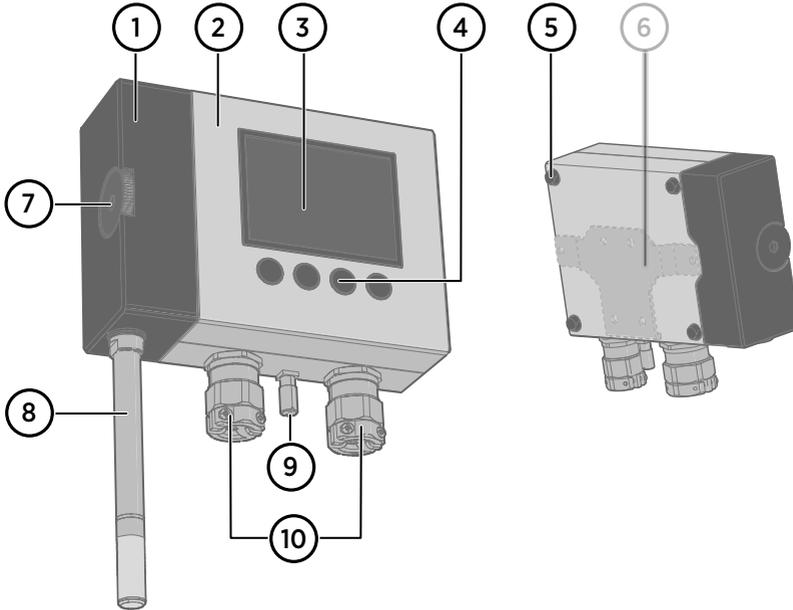
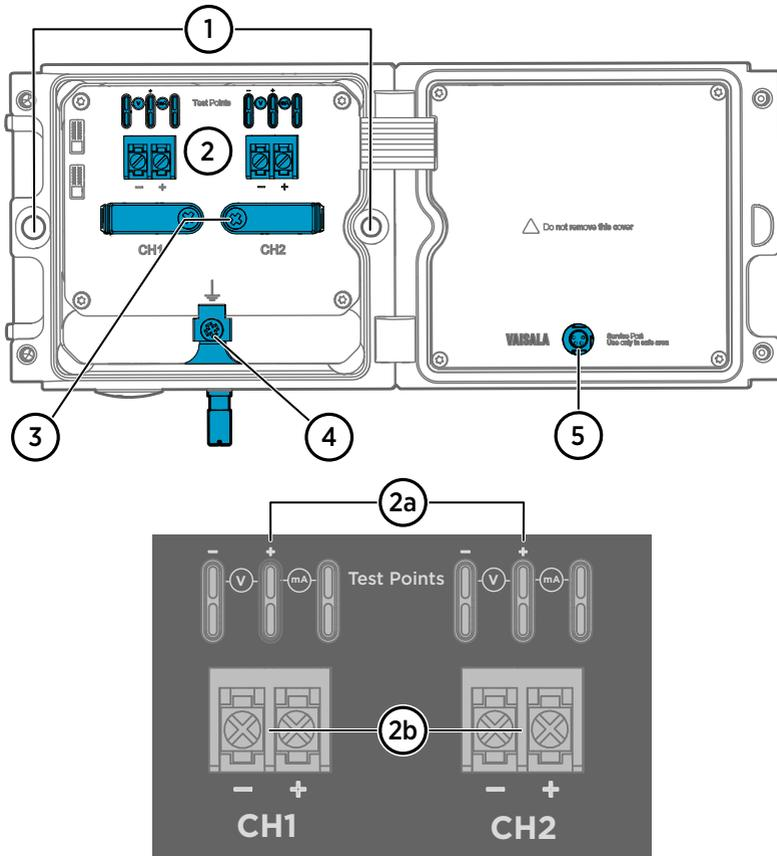

Figure 2 HMT370EX transmitter external parts
Figure 3 HMT370EX transmitter internal parts
The external parts of the transmitter are shown in Figure 2 \(page 16\), and the internal parts of the transmitter are shown in Figure 3 \(page 17\).
- 2 Transmitter body (for internal parts, see Figure 3 \(page 17\))